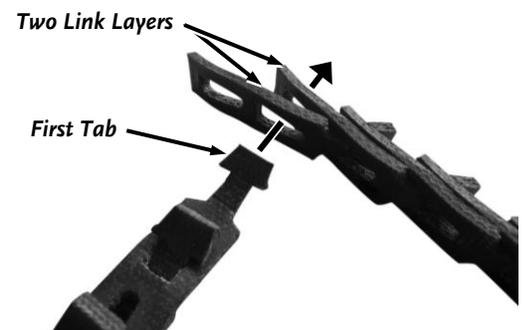

Figure 20
- Twist the Tab end sideways and insert it through the two Slots until it comes out the other side (**Figure 20**).